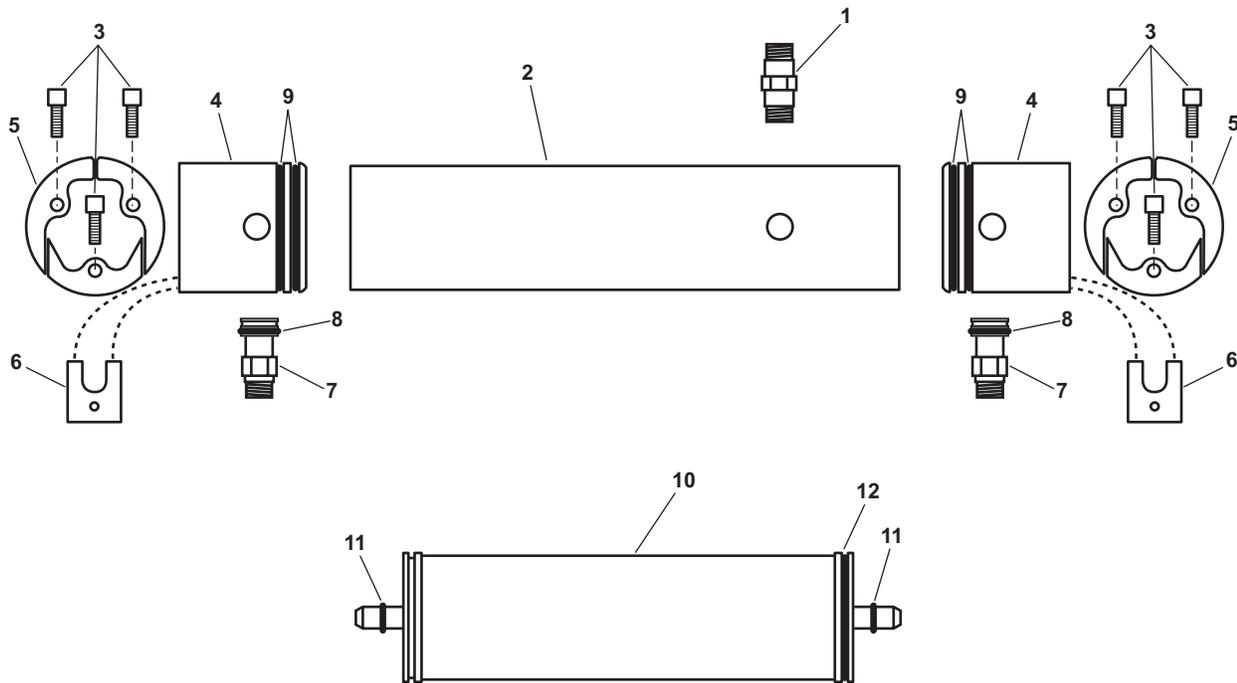

Figure 3. RO Membrane and Vessel Subassembly Repair
2. Remove the product water fitting (figure 3, item 1) from the high pressure vessel (figure 3, item 2).
3. Remove the three allen head screws (figure 3, item 3) from each end of the high pressure vessel (figure 3, item 2).
4. Push inward on each end plug (figure 3, item 4), and remove the three piece segment ring (figure 3, item 5) from each end of the high pressure vessel (figure 3, item 2).
5. Remove the high pressure fitting retainer (figure 3, item 6) from each end of the high pressure vessel (figure 3, item 2).
6. Remove the high pressure fitting (figure 3, item 7) and O-ring (figure 3, item 8) from each end of the high pressure vessel (figure 3, item 2). Discard the O-ring.
7. Loosely install the three allen head screws (figure 3, item 3) into each end plug (figure 3, item 4) inside the high pressure vessel (figure 3, item 2).
8. Use the three allen head screws (figure 3, item 3) as a handle to remove the end plugs (figure 3, item 4) from the high pressure vessel (figure 3, item 2). Discard the two O-rings (figure 3, item 9) on each end plug.
9. Remove the RO membrane element (figure 3, item 10) from the product water side of the high pressure vessel (figure 3, item 2). Discard the RO membrane element, the two product water O-rings (figure 3, item 11) and the brine seal (figure 3, item 12).
10. Use a clean rag and clean water to remove any biological film or debris from the interior of the high pressure vessel (figure 3, item 2).
11. Inspect the interior of the high pressure vessel (figure 3, item 2) for cracks and smoothness. Replace the high pressure vessel if the interior is not crack free and smooth.
12. Clean each end plug (figure 3, item 4) and the high pressure fittings (figure 3, item 7) with clean wiping rags and water.
13. Inspect each end plug (figure 3, item 4) and the high pressure fittings (figure 3, item 7) for damage and wear.
1. Lightly lubricate two new product water O-rings (figure 3, item 11) with silicone lubricant and install the product water O-rings on the new RO membrane element (figure 3, item 10).
2. Insert the brine outlet side of the new RO membrane element (figure 3, item 10) into the product water outlet side of the high pressure vessel (figure 3, item 2).
3. Slide the new RO element (figure 3, item 10) into the high pressure vessel (figure 3, item 2) until the brine seal (figure 3, item 12) is approximately 4 inches (102 mm) past the inside lip.
4. Lightly lubricate four new O-rings (figure 3, item 9) and two new O-rings on each end plug (figure 3, item 4).
5. Push each end plug (figure 3, item 4) into the high pressure vessel (figure 3, item 2), ensuring that the high pressure ports and the product water port on the RO membrane (figure 3, item 10) are aligned with their respective holes in the high pressure vessel.
6. Continue to push each end plug (figure 3, item 4) into the high pressure vessel (figure 3, item 2) until the segmented ring grooves are exposed at each end of the high pressure vessel.
7. Verify that the high pressure ports and the product water port are still aligned with their respective holes in the high pressure vessel (figure 3, item 2).
8. Lightly lubricate two new O-rings (figure 3, item 8) with silicone lubricant, and install an O-ring on each high pressure fitting (figure 3, item 7).
9. Install a high pressure fitting (figure 3, item 7) with new O-rings (figure 3, item 8) in the high pressure ports at each end of the high pressure vessel (figure 3, item 2), and secure each in place with a high pressure fitting retainer (figure 3, item 6)
10. Wrap the male threads of the product water fitting (figure 3, item 1) with three layers of anti-seizing tape.
11. Install the product water fitting (figure 3, item 1) on the high pressure vessel (figure 3, item 2). Tighten until two or three threads are exposed from the end plug (figure 3, item 4). Use no tools, and do not over tighten.
12. Install a three piece segment ring (figure 3, item 5) in each end of the high pressure vessel (figure 3, item 2) and secure each of the six segments in place with three allen head screws (figure 3, item 3) at each end.